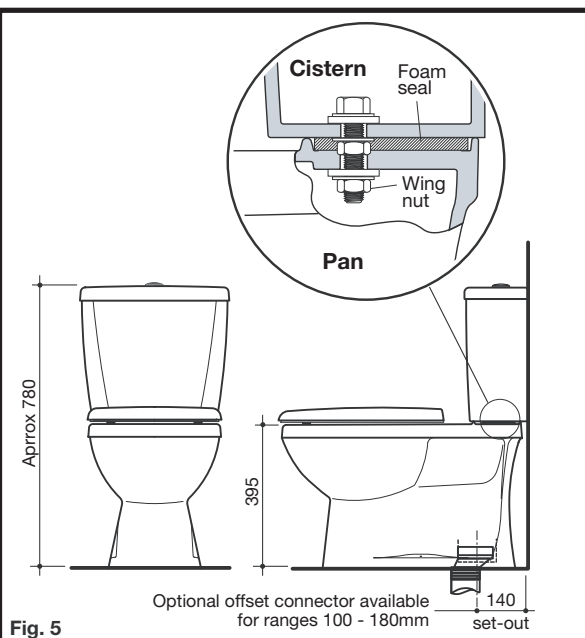

Fig. 5
- 1- Securely attach the self-adhesive foam seal around the outlet on the base of cistern, as detailed in **Fig. 5.**